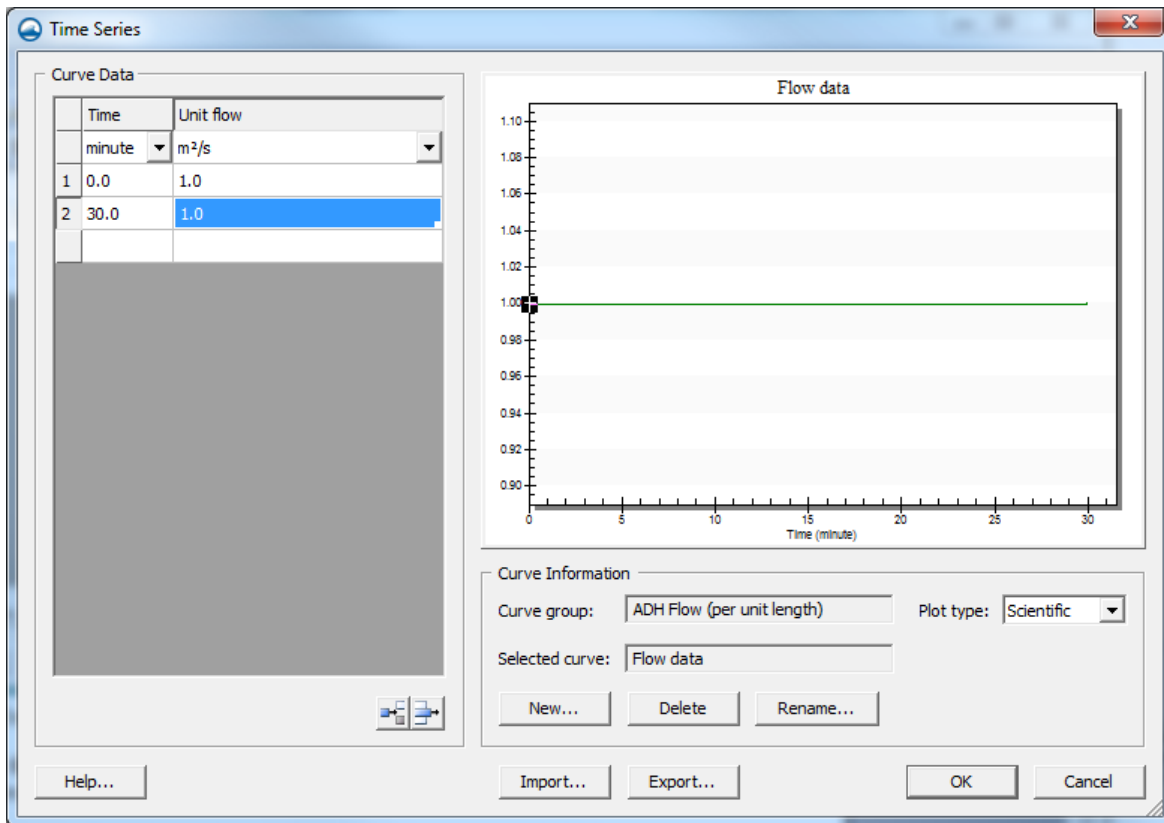

Figure 3. Time Series for Flow data.
5. Click on *Curve undefined*. Click *New...* and name the curve "Flow data". Figure 3 shows the Time Series dialog.